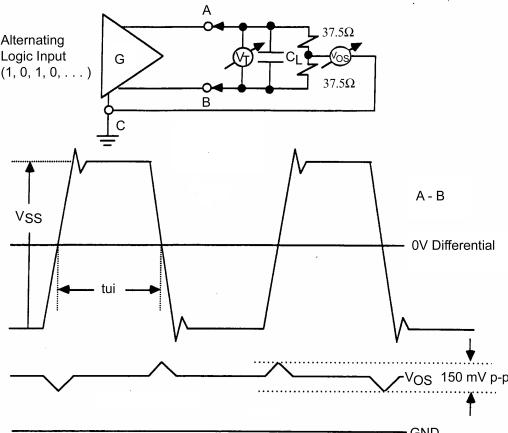

FIGURE 2. Dynamic V_{OS} Test Circuit and Waveforms
- When the true and complement LVDS outputs (having a 5 pF capacitor attached between outputs) are connected with 37.5Ω resistors each to common point, then the common point does not vary by more than 150 mV under all process, temperature and voltage conditions when the outputs switch either from LOW-to-HIGH or from HIGH-to-LOW (see Figure 2).